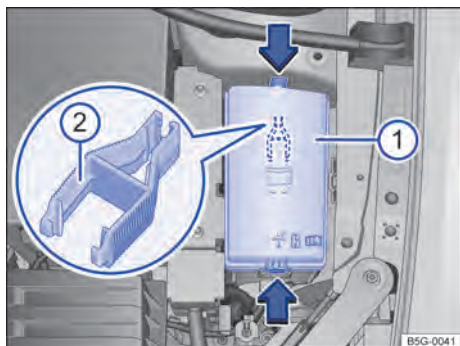

Fig. 174 In the engine compartment: fuse box cover ① with plastic claw ②.
- Press the retainers in the direction of the arrow → Fig. 174 ① to release the fuse box cover.
On the inside of the engine compartment fuse box cover there may be a pair of plastic tweezers → Fig. 174 ② to extract the fuses.